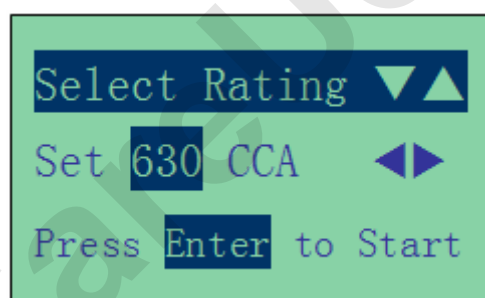

Figure 12
10. To enter the value 630, press  key will increase the original value of 500 (Fig.11) by step of 100 units to 600. Likewise use  key to increase the last two digits (00) to 30 by step of 5 units for each pressing. (Fig. 12)